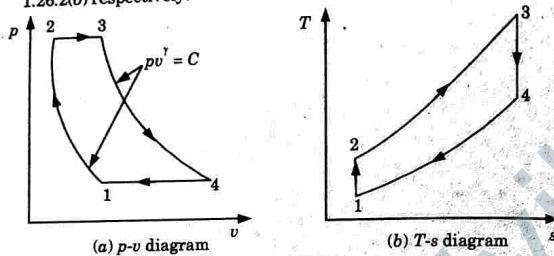

Fig. 1.26.2.
4. Brayton cycle on  $p-v$  and  $T-s$  diagram is shown in Fig. 1.26.2(a) and 1.26.2(b) respectively.